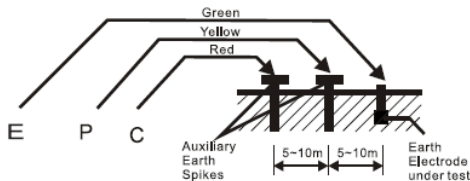

Fig.1
- (1) Connect green, yellow and red test leads to instrument terminals E, P and C with auxiliary earth spikes P1, C1 stuck into earth “IN A STRAIGHT LINE “. (Fig.1)
- (2) Rotary the function switch to suitable range then press the pushbutton to test and take the reading.
** Follow the proper connection such as Fig1.*